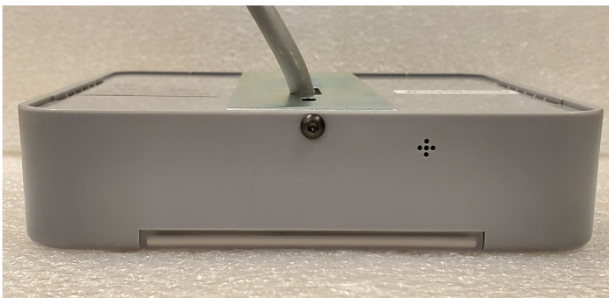

Figure 1
2. **Remove Back plate** – Using the supplied Allen Wrench, remove the cover screw located on the bottom of the reader. Separate the metal back plate from the reader. (Figure 1)